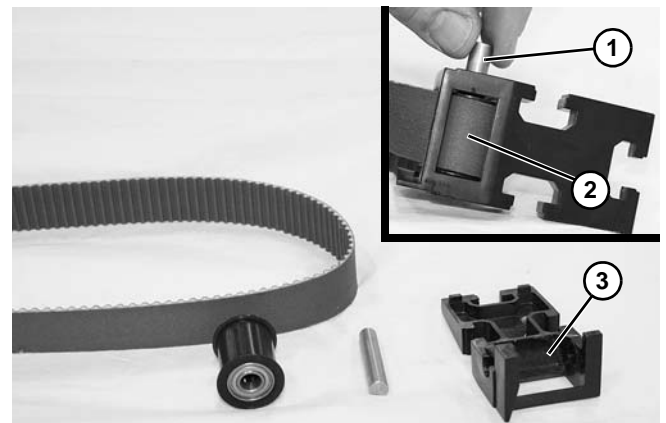

Figure 25
7. Remove roller pin (Figure 25, item 1) and roller assembly with belt (Figure 25, item 2) from end cap (Figure 25, item 3) on both ends of belt.